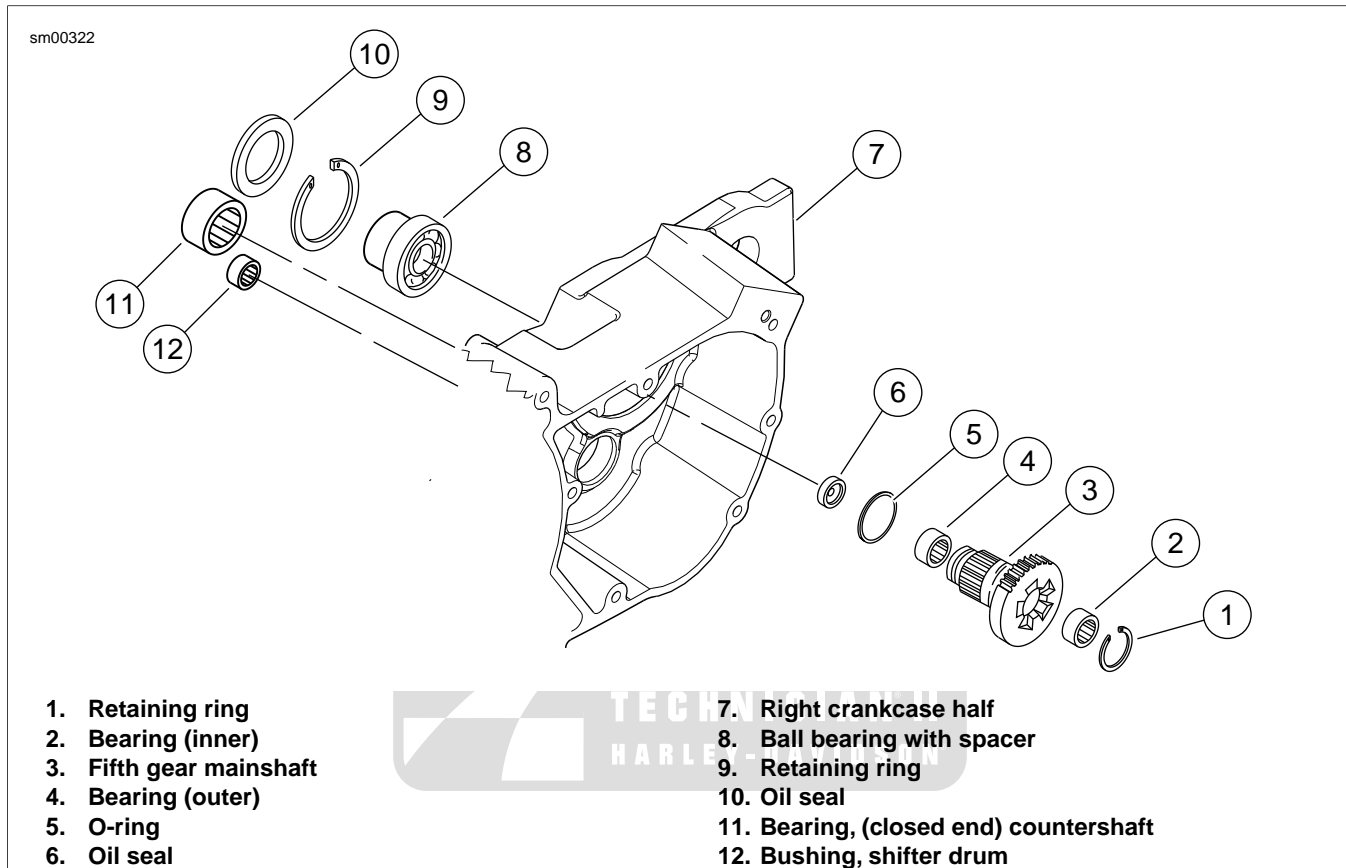

Figure 5-66. Transmission Assembly - Right Crankcase Half
See Figure 5-66. When removing the main drive gear (3), the gear is pressed out against the resistance of the ball bearing
1. See Figure 5-66. At outside of case remove and discard oil seal (10). Remove and discard main drive gear bearing retaining ring (9).
6. See Figure 5-66. At outside of case install **new** beveled retaining ring (9) in groove inside bearing bore with beveled side facing outside of case.